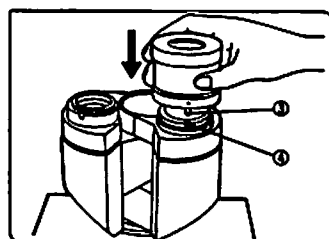

Fig. 18
When using a finder eyepiece or an eyepiece with micrometer adjustment, insert this eyepiece into the right-hand eyepiece sleeve. When doing so, make sure that the eyepiece positioning pin ① fits into the notch ② at the bottom of the eyepiece sleeve. (Fig. 18)